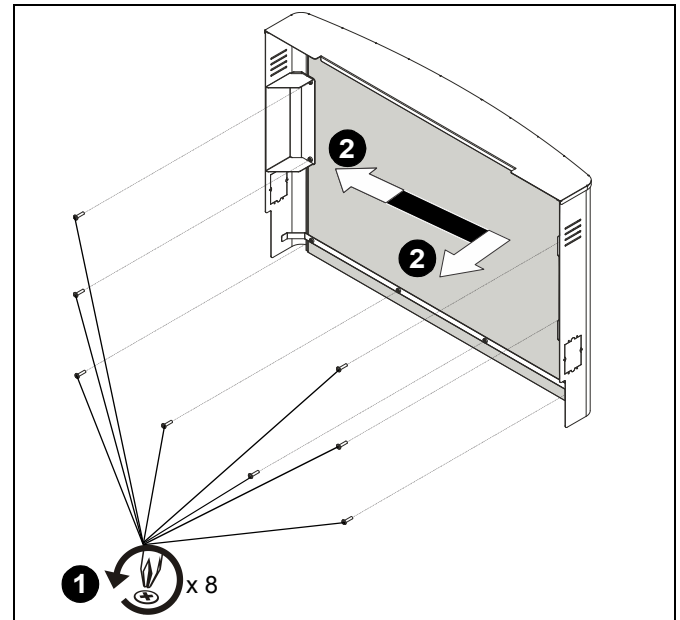

Figure 21
1. Remove eight Phillips screws holding aesthetic cover inside base cover (C). (See Figure 21)
2. Remove aesthetic cover from base cover by sliding it first to one side and then out. (See Figure 21)